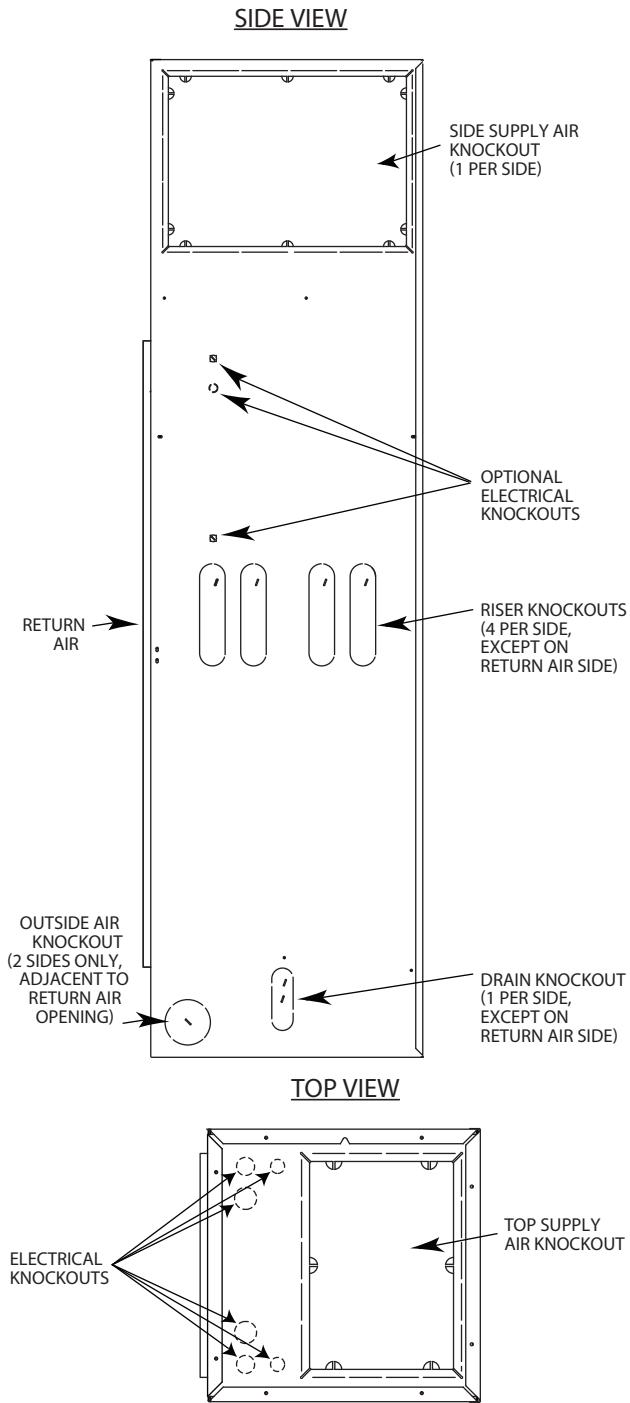

Fig. 17 — Locate 42SU Unit Knockouts
- Three sides of each universal stack unit have four supply and return riser knockouts along the center and one drain knockout near the lower part of the unit (see Fig. 17). Identify whether your application uses a 2-pipe or 4-pipe configuration.
Each side of the unit has one supply air knockout as well as a supply air knockout on the top of the unit (see Fig. 17).